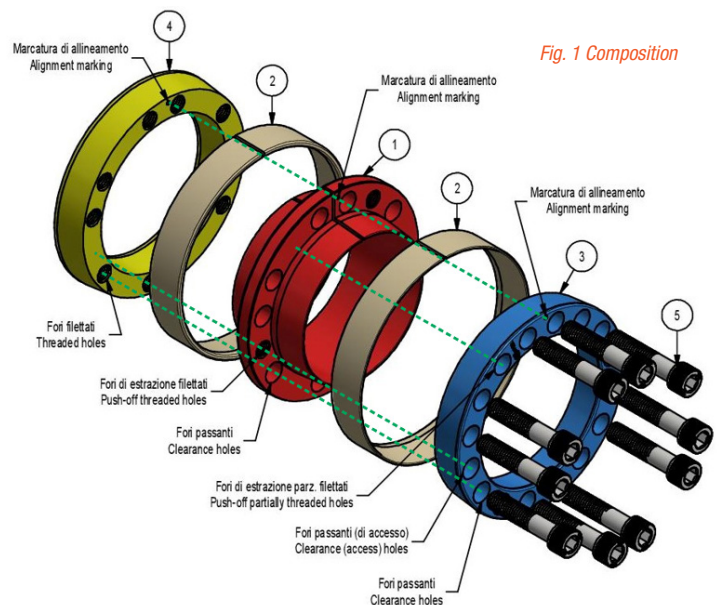

Fig. 1 Composition
**Locking Assemblies MAV 4071 and MAV 1800 are supplied ready for installation and are composed of (fig. 1):**
Locking Assemblies MAV 4071 and MAV 1800 are supplied ready for installation. Should the unit be disassembled and re-assembled, make sure that neither clearance nor threaded holes in the inner ring are below the partially threaded holes in the front thrust ring as well as no holes in the rear thrust ring are below the threaded holes in the inner ring. Thrust rings as well as inner ring are engraved with a circular marking: make sure that all markings are aligned (fig. 1, dashed lines). During tightening of Locking Assembly, no axial displacement of hub respect to shaft will occur.